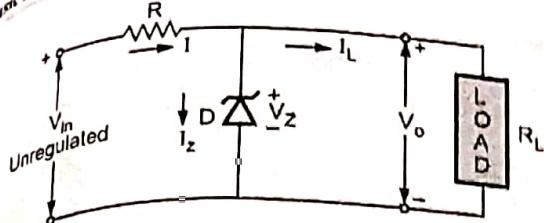

Fig. Q.26.1 Zener diode as a shunt regulator
- A shunt voltage regulator using zener diode is shown in the Fig. Q.26.1. (See Fig. Q.26.1 on next page).
From the Fig. Q.26.1 we can write,